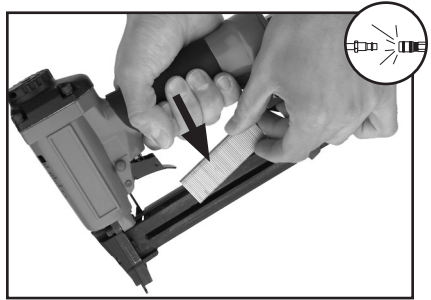

Figure 4. Loading staples into magazine.
3. Insert a stick of staples, pointed-end down, into the magazine as shown in **Figure 4**.